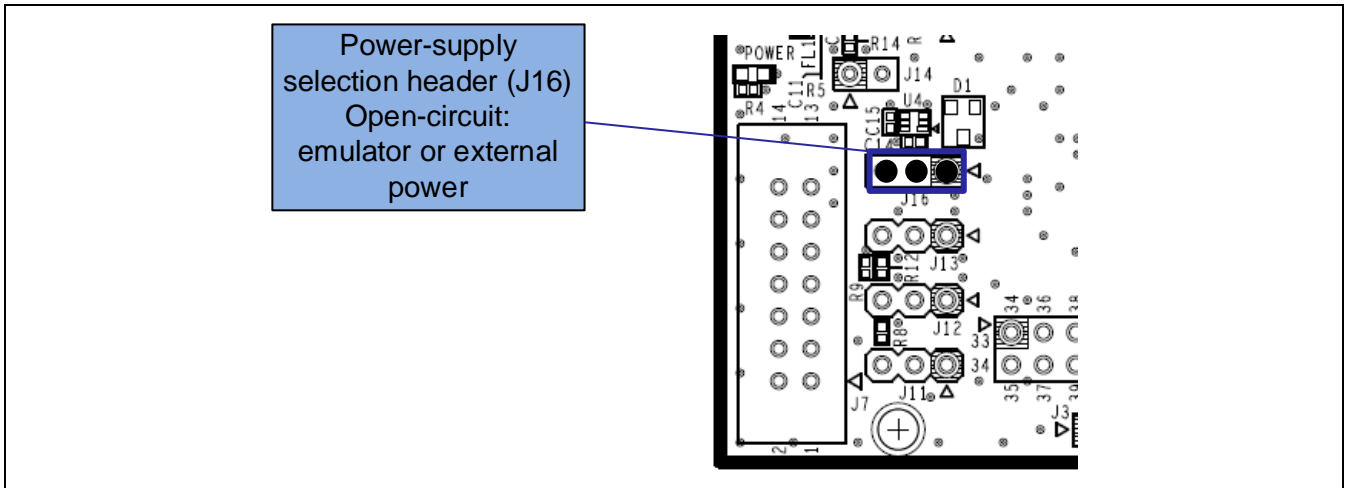

Figure 5-7 Setting of the Header to Select Supply from the Emulator or External Power (Top Side)
- J16 being open-circuit selects supply from the emulator or external power. (Figure 5-7).